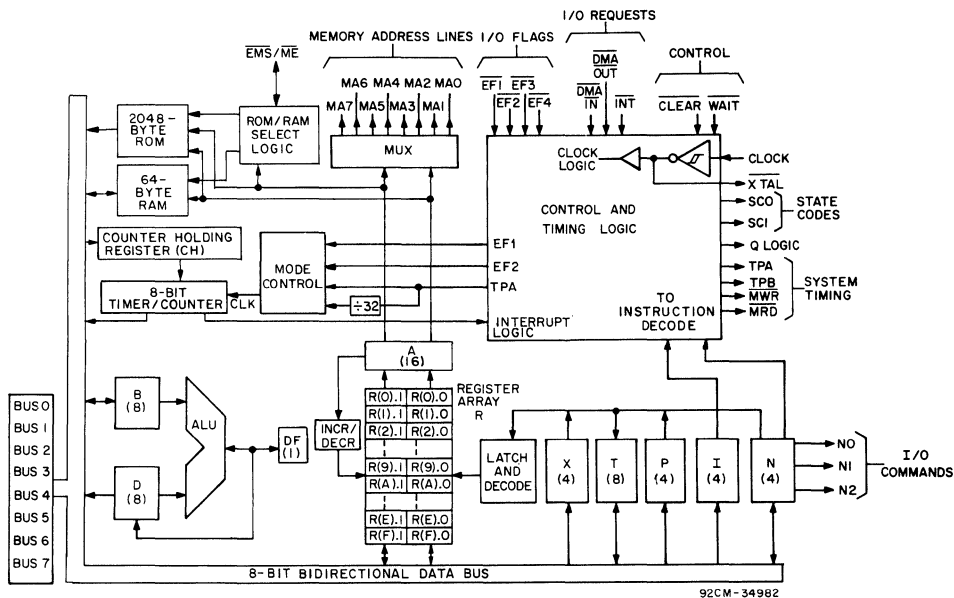

Fig. 2 - Block diagram for CDP1804AC.
Fig. 2 shows a block diagram of the CDP1804AC. The principal feature of this system is a register array (R) consisting of sixteen 16-bit scratchpad registers. Individual registers in the array (R) are designated (selected) by a 4-bit binary code from one of the 4-bit registers labeled N, P, and X. The contents of any register can be directed to any one of the following paths: